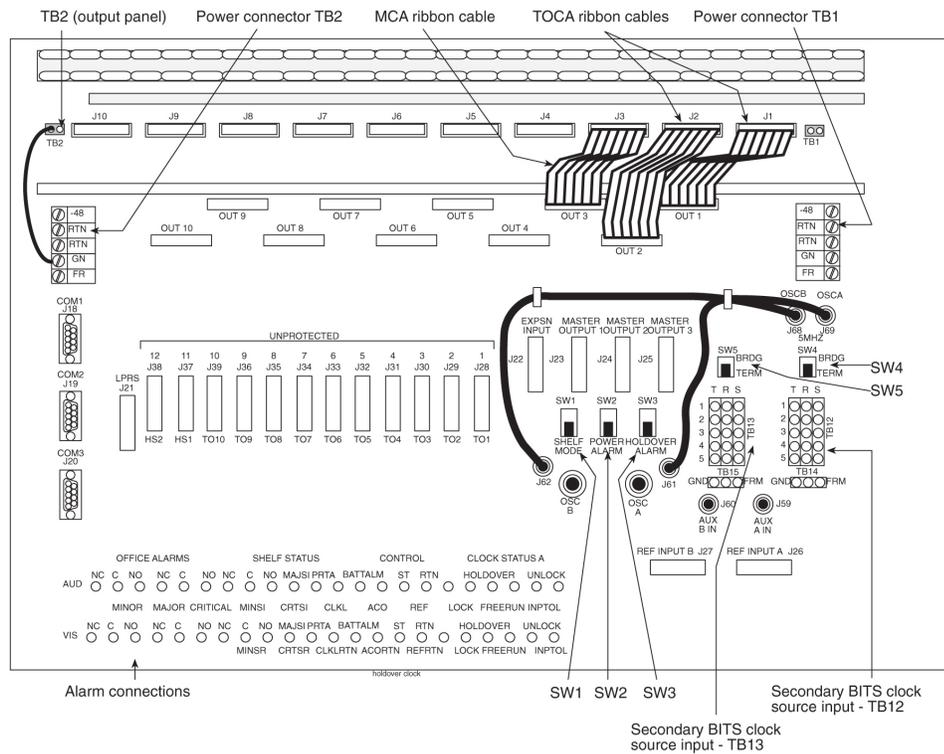

Figure 114: Holdover Clock and Output Panel, Rear
Timing Output Composite Clock Automatic (TOCA) ribbon cable; check to insure that the ribbon cables connecting the holdover clock with the output panel are connected as shown in Figure 114:
Check that the output panel frame ground cable is installed between TB2 on the output panel and an output panel mounting screw, see *Figure 114: Holdover Clock and Output Panel, Rear.*
See *Figure 113: Holdover Clock Power Connector* and *Figure 114: Holdover Clock and Output Panel, Rear* for holdover clock connector locations.
4. Route the cable up the left side of the control frame, viewed from the rear, over to the miscellaneous frame containing the holdover clock, and down the left side of the miscellaneous frame to the cable tie bar next to the alarm connections, see Figure 114: Holdover Clock and Output Panel, Rear.